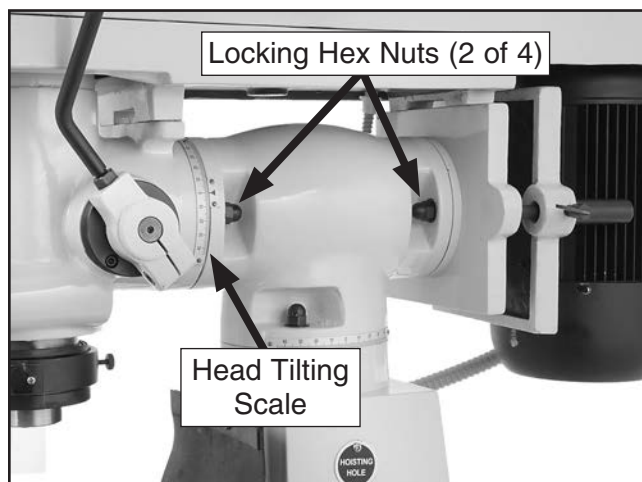

Figure 22. Head tilting locking hex nuts (2 of 4 shown).
- Loosen the four locking hex nuts on either side of the turret (see **Figure 22**).